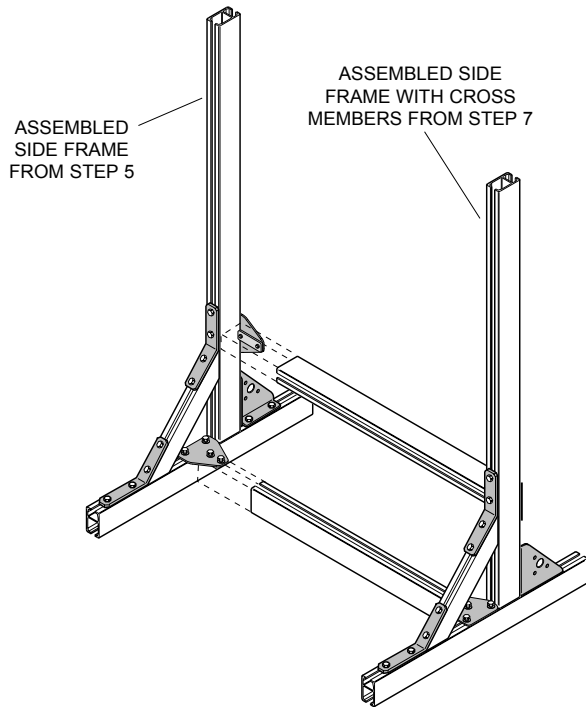

Figure 7.
- Stand assembly upright and attach other side frame (Fig 7). Square unit and securely tighten all bolts.